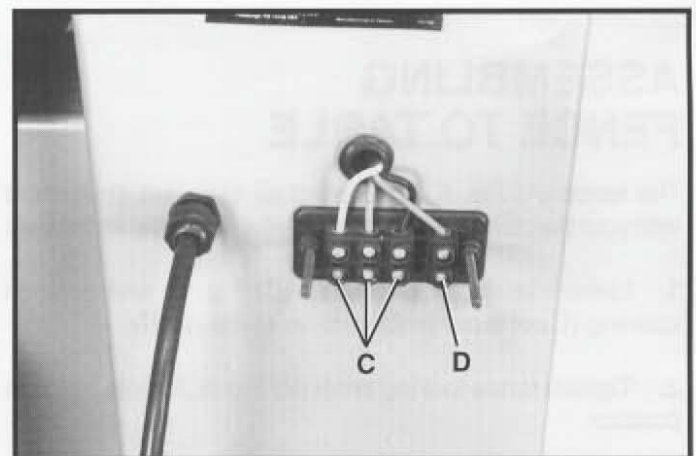

Fig. 6B
2. Connect the incoming three phase power lines to terminals (C) Fig. 6B, and green ground wire to ground screw (D).
IMPORTANT: The rotation of the saw blade must be in a clockwise direction when viewed from the front of the machine and the teeth of the blade must be pointed downward toward the table. If the rotation of the blade is incorrect, **DISCONNECT THE MACHINE FROM THE POWER SOURCE** and interchange any two of the three incoming power lines connected to terminal (C) Fig. 6B.